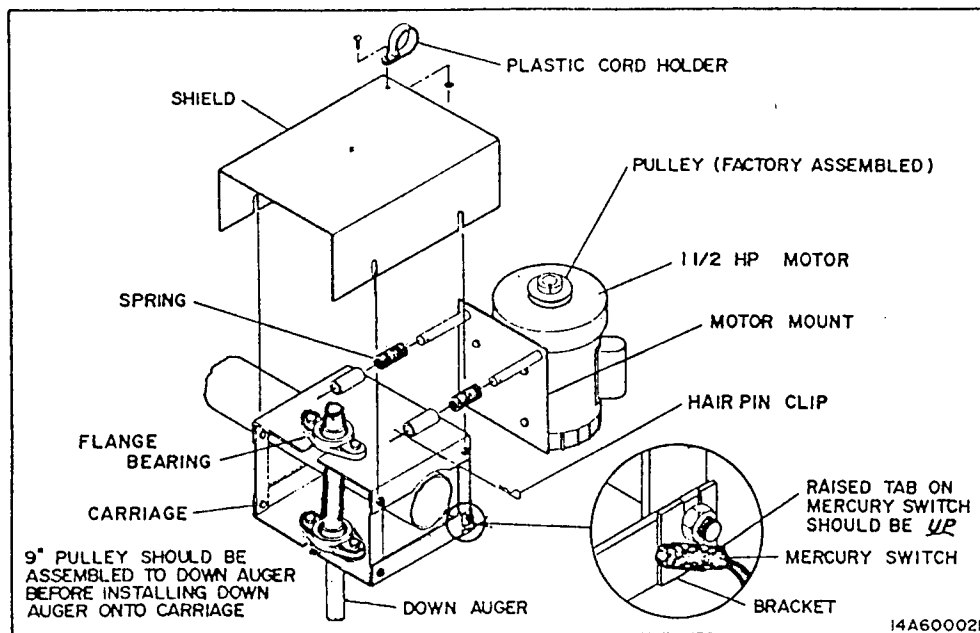

FIG. 7 - ASSEMBLY OF CARRIAGES
3. On satellite outside and middle carriages, mount mercury switch and bracket to bottom corner carriage bolt shown in Fig 7. Be sure raised tab on mercury switch is up. Slide bottom of bracket up to and even with bottom carriage plate and secure in place.
5. Place one spring on each of the motor mount pegs. Mount motors onto carriages. Place hairpin clip through hole in motor mount peg. Use one clip per carriage. Fig 7
3. Run cords through plastic cord holders as shown. Fig 7 Run connecting cords across tie bars. Important: Tape cords out of way of all moving parts. Leave enough slack in cords so carrier can travel entire length of crosstube.
1. Hang down augers by top bearing in slot of carriage. Bolt top bearing to carriage with 2 - 7/16 x 1 1/4" bolts. Fig. 7